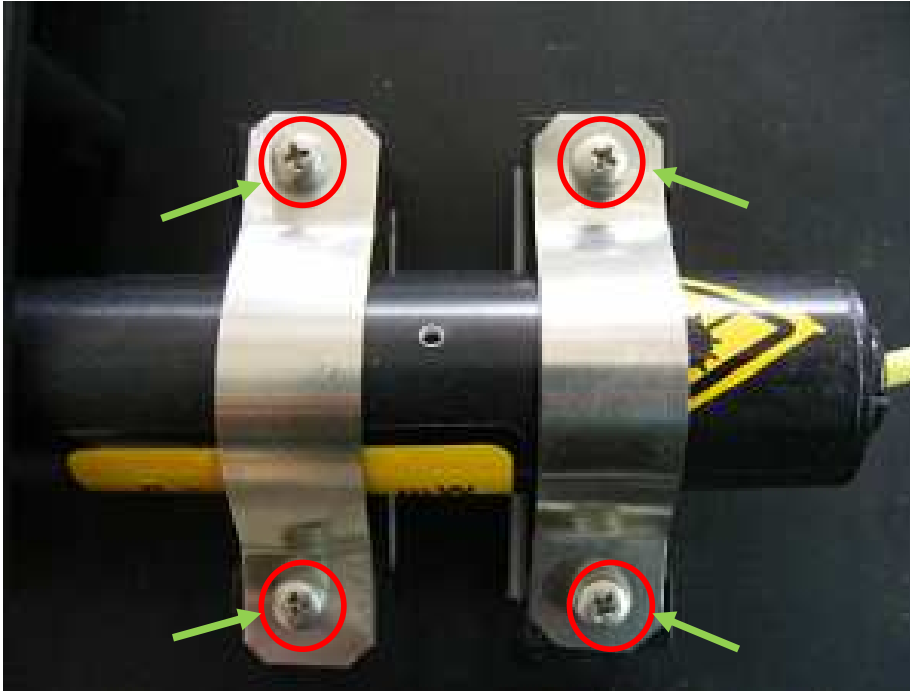

Figure 12-1
- Release four M3 screws. (figure 12-1)